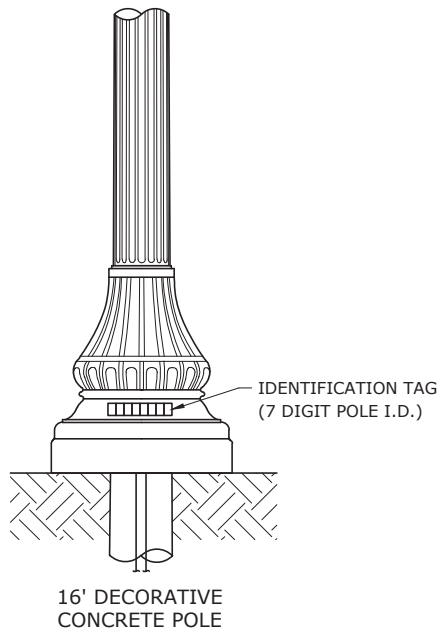

FIG. 1
3. THE STANDARD TEMPERATURE PHOTOCONTROL CAN BE USED ON THESE FIXTURES, SEE DWG. 30.03-05, FIG. 1.